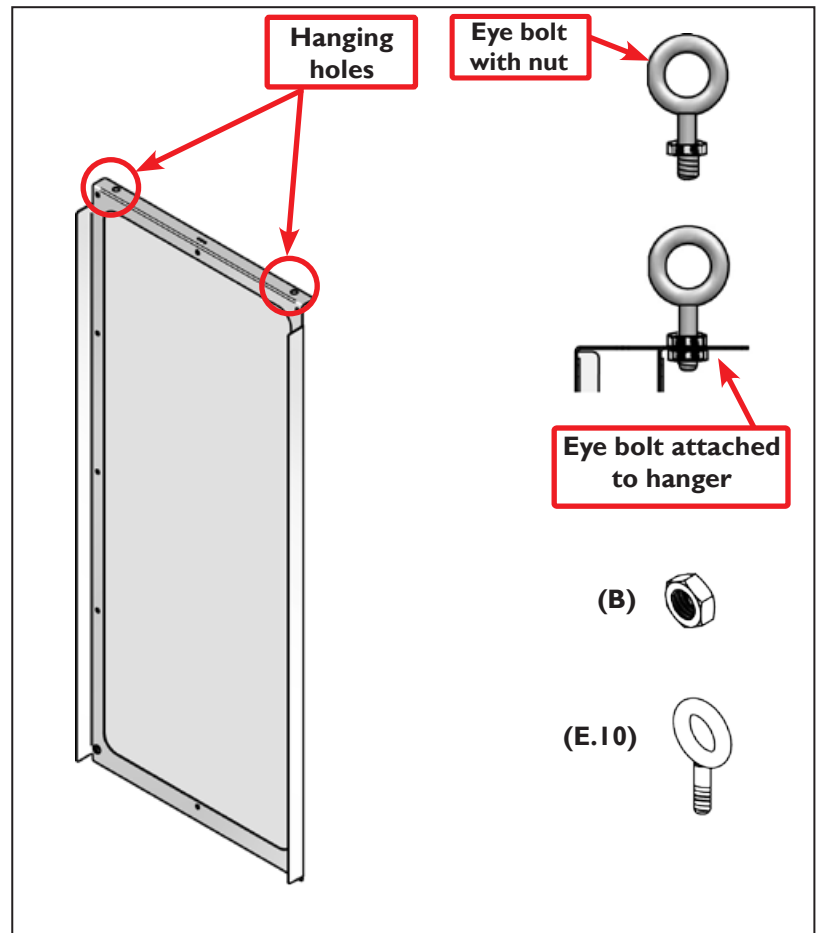

Figure 27
72. Place one (B) nut on each of eight Eye Bolts (E.10) as seen in **Figure 27**, and screw on as far as they will go onto each Eye Bolt.
73. Place each Eye Bolt into the hanging holes located on each door (see **Figure 27**). Once the Eye Bolts are through the door frame, thread another (B) nut onto the bottom side of each Eye Bolt; tighten securely.